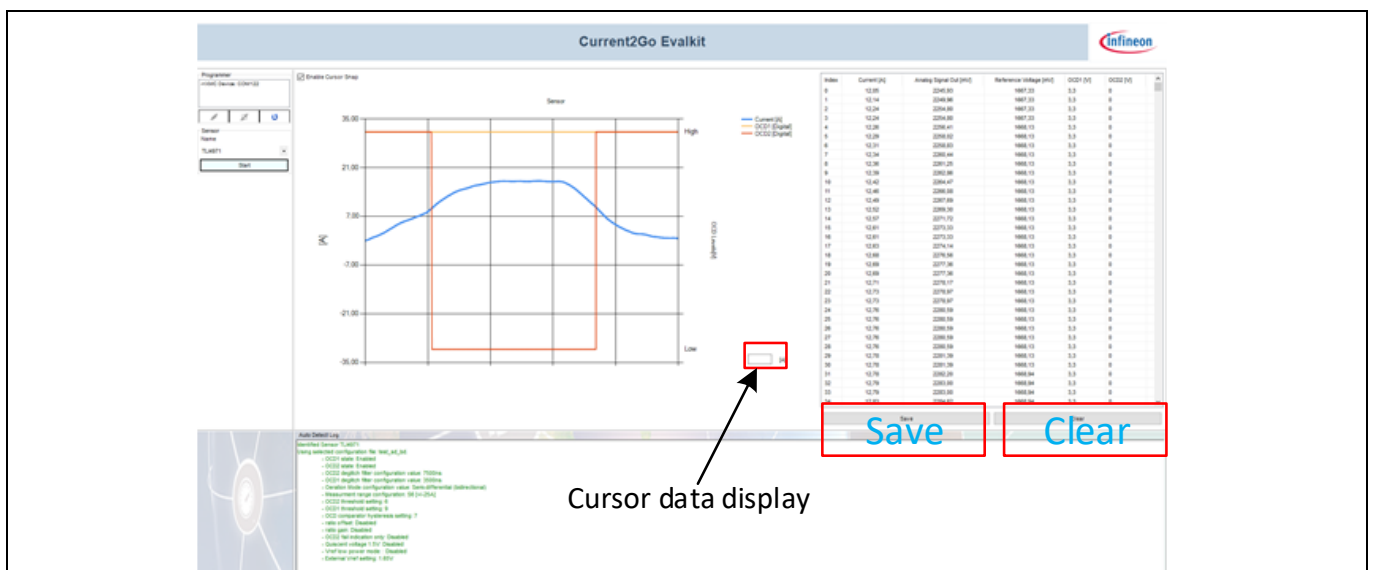

Figure 17 XMC Device: COM6 window: Save and Clear options
- When the user click on the “Start” button then the GUI starts real time graph for plotting the current value (in ampere scale) and OCD line status in the middle pane of the Current2Go Evalkit window, and displays offline acquired values (current computation, AOUT/VREF voltage, OCD states) , as shown in the below Figure 17. Also, either it is possible to save or clear the data by using the “Save” or “Clear” buttons respectively that are highlighted in red color boxes which are on the bottom right side of the XMC Device: COM6 window. The user can click on at any point on the plot window and the respective cursor data will be shown in the small box that is highlighted in red color box which has shown in the bottom right corner of the plot window